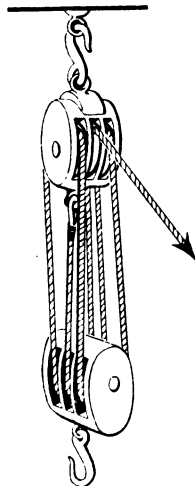

Fig. 183.—Three-fold purchase
(9) *The Three fold Purchase* (Fig. 183) consists of two treble blocks ; its M.A. is 7 if rove to advantage, and 6 if rove to disadvantage